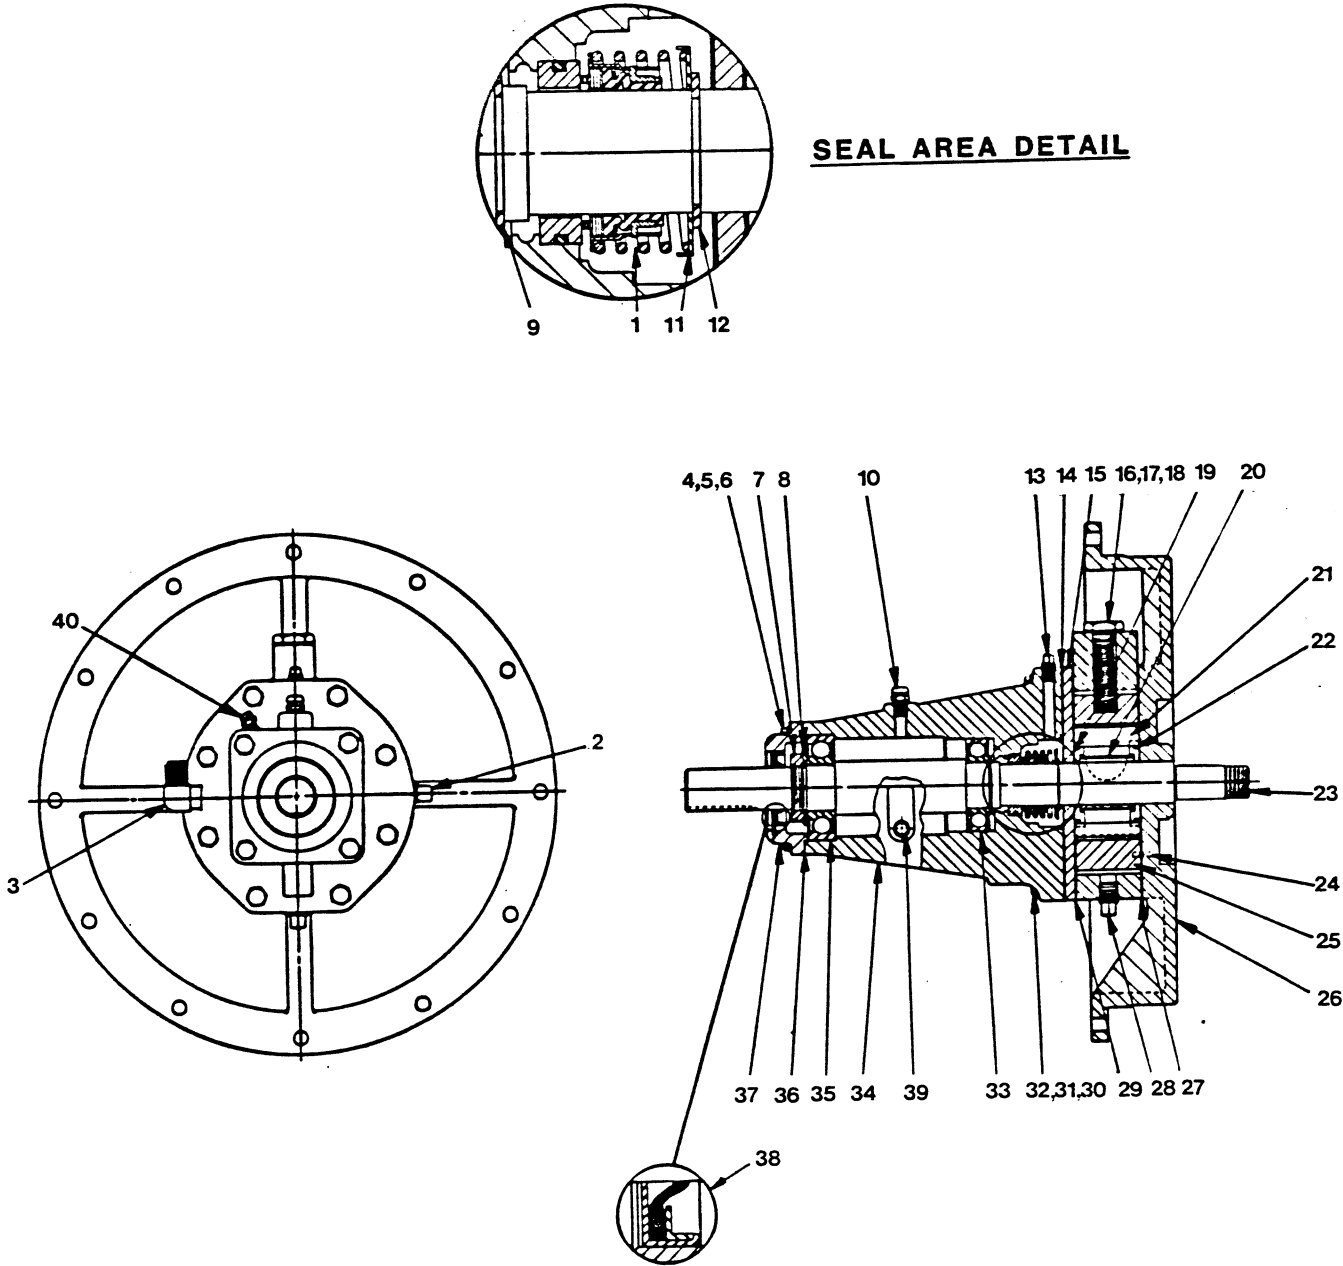

Figure 2. Bearing Housing Assembly R12214-06
Before attempting to service the pump, disconnect or lock out the power supply to prevent accidental start up. Close all valves in the suction and discharge piping and drain the pump casing and group grind by removing the drain plugs (23, Figure 1, and 28, Figure 2). Clean and reinstall the drain plugs.
Disconnect the priming tube assembly (5) from the bearing housing (34, Figure 2) and pump casing.
#### (Figure 2)
#### (Figure 2 and 4)